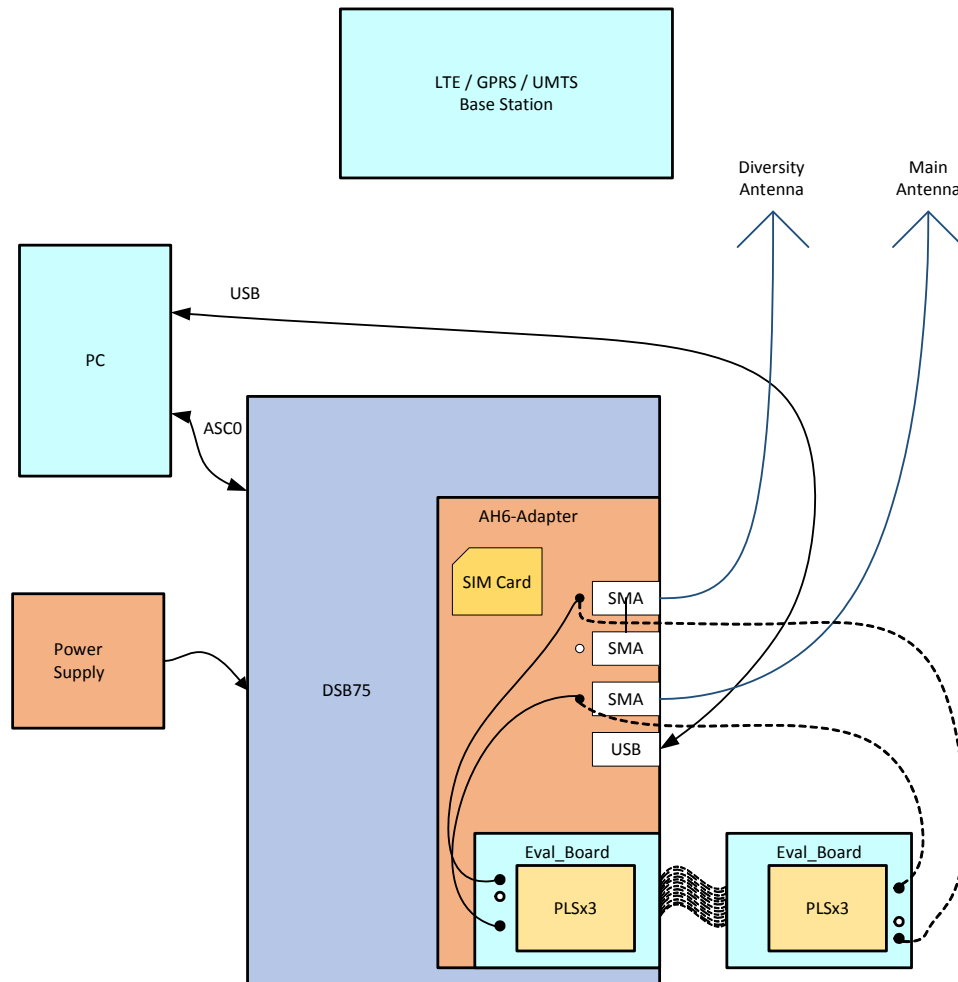

Figure 26: Reference equipment for Type Approval
1. For RF performance tests a mini-SMT/U.FL to SMA adapter with attached 6dB coaxial attenuator is chosen to connect the evaluation module directly to the GSM/UMTS test equipment instead of employing the SMA antenna connectors on the PLS63-X-DSB75 adapter as shown in Figure 26. The following products are recommended: